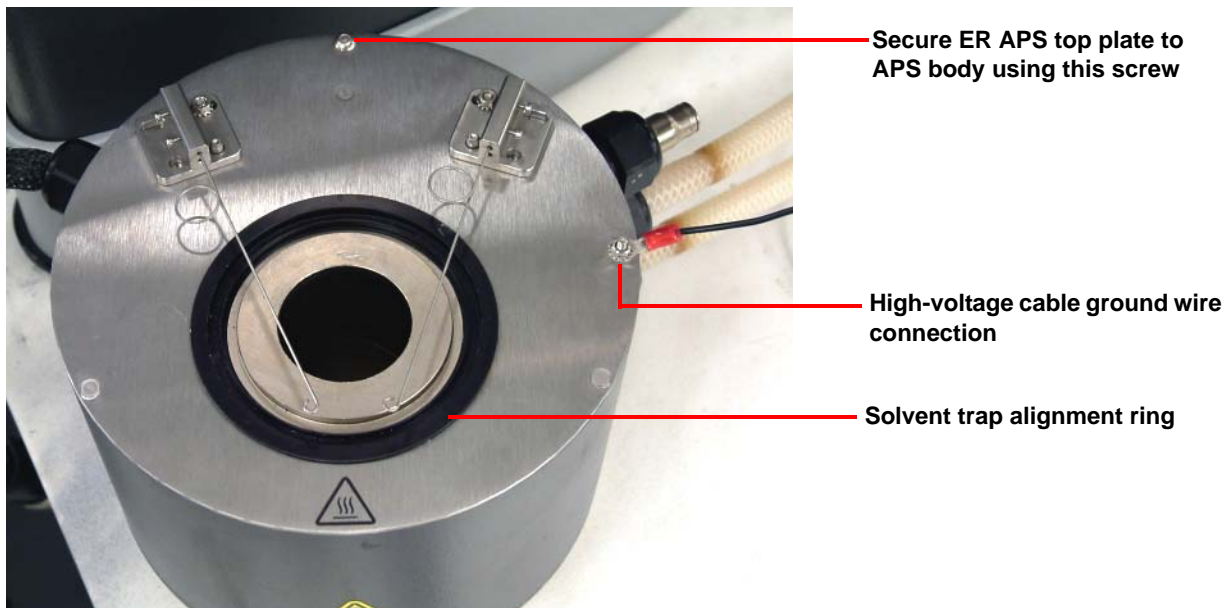

Figure 26 ER APS top plate, solvent trap alignment ring, and ground wire installed.
- 3 Install the ER APS top plate onto the APS body using the top plate screw removed in step 1 above. Then re-install the black solvent trap alignment ring. See Figure 26.